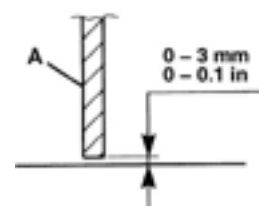
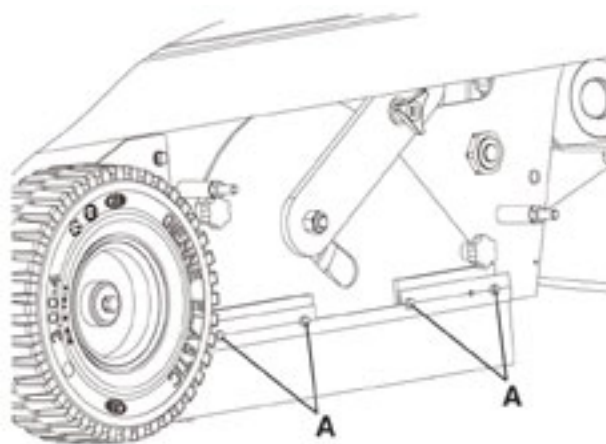

Figure13
Figure16
- 3) Check that distance from the ground of the side skirts (11 and 12) is within 0 – 0.12 in (0 – 3 mm) (A, Fig. 13). If necessary, adjust the skirt height by using the slots on the screws (A, Fig. 16).